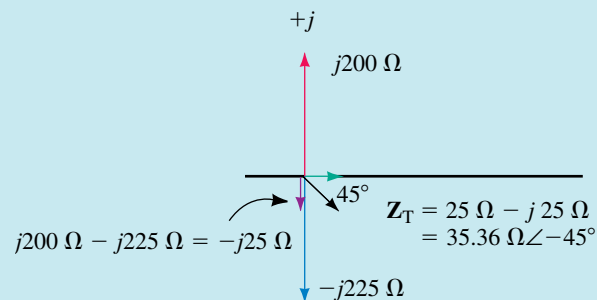

FIGURE 18-21
- The corresponding impedance diagram is shown in Figure 18-21.